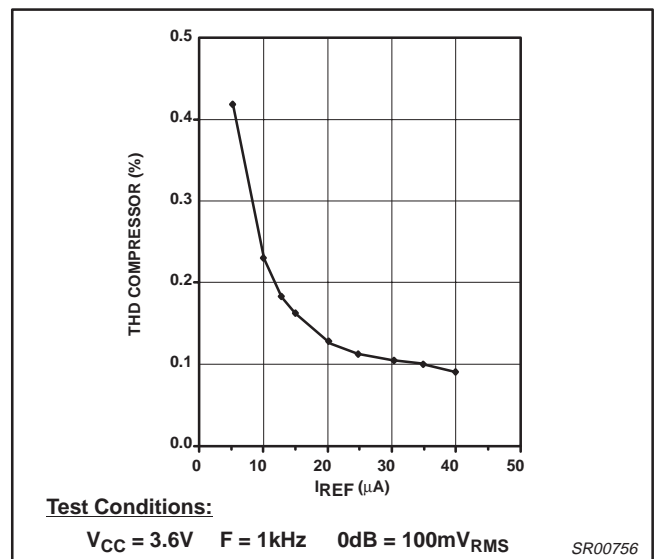

Figure 5 . I_{REF} vs THD, Compressor Side
Step 1: According to Figure 5, an I_{REF} of $30\mu A$ is required for approximately 0.1% distortion.